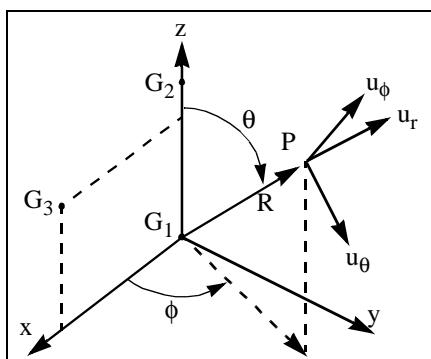

Figure 4-13 CORD1S coordinate system
- The displacement components at P,  $(u_r, u_\theta, u_\phi)$ , are dependent on the location of P as shown in Figure 4-13.